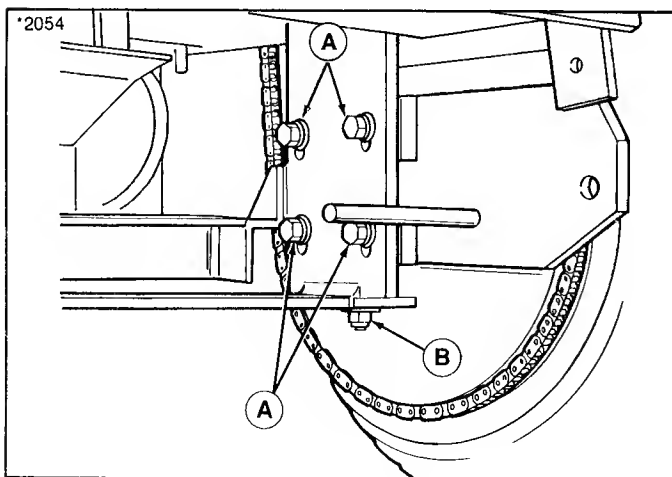

Figure 27.
1. Loosen the four 7/16" bolts (A, figure 27) holding the axle plate assembly to the frame.
2. Loosen the four 7/16" bolts (D, figure 28) holding the axle plate assembly to the frame. Bolts are also shown as A, figure 27.
3. Turn the top and bottom nuts (F) on tension capscrew to adjust tension on top chain. So that axle plate remains parallel to the ground, turn adjusting nut (G) equal number of turns if tension capscrew is adjusted.
4. Retighten four bolts (D) and torque to 50 ft. lbs.
5. Tighten nuts (F) after chain tension is correct.